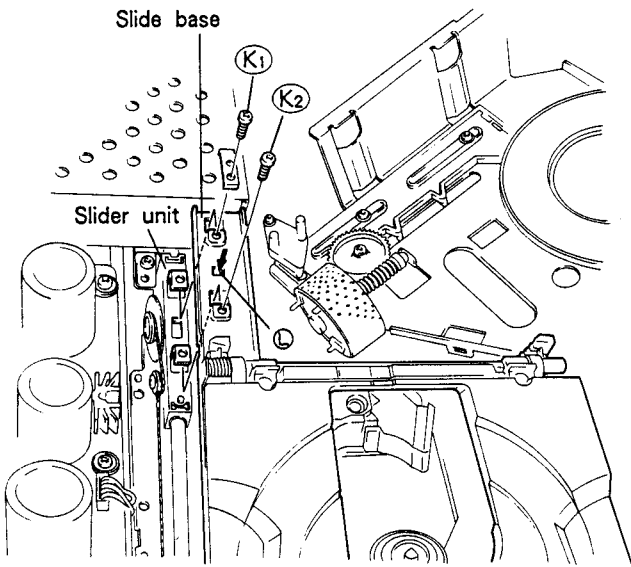

Fig. 2-3.
3. Remove the fixing screws  $K_1$  and  $K_2$  of the tray assembly and remove the slide base from the slider unit of the loading mechanism assembly by pushing the claw  $L$ . (Refer to Fig. 2-3).